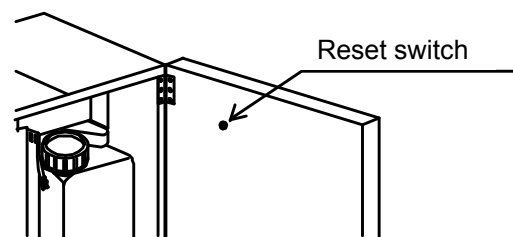

Fig. 04
- (6) Turn ON (I) ELB and wait for about 10 seconds. Press the reset switch on the back of front door for two seconds (Fig. 04).